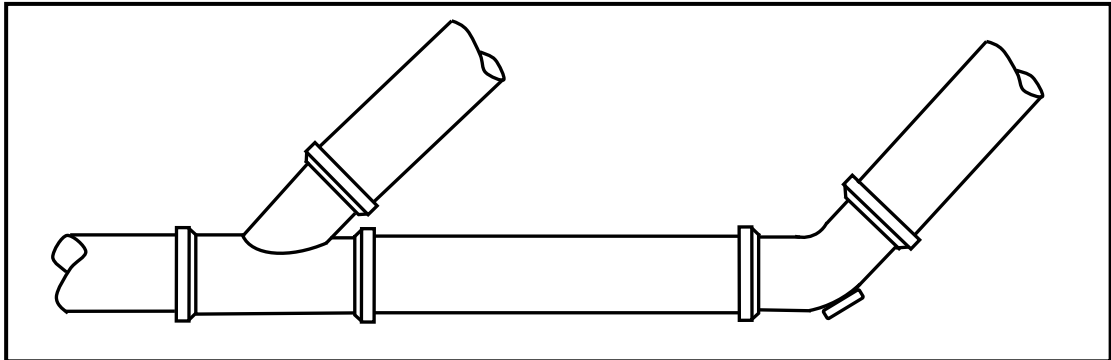

FIGURE 4.6
- 4.6 FIGURE 4.6 below shows a sketch of a 110 mm soil pipe that Grade 12 learners were required to install. The task was to connect and align the pipe and fittings, setting the fall correctly. Later, when the system was tested, there were leaks at the joints.
- 4.6.1 Name the TWO fittings that are shown in FIGURE 4.6 above. (2)